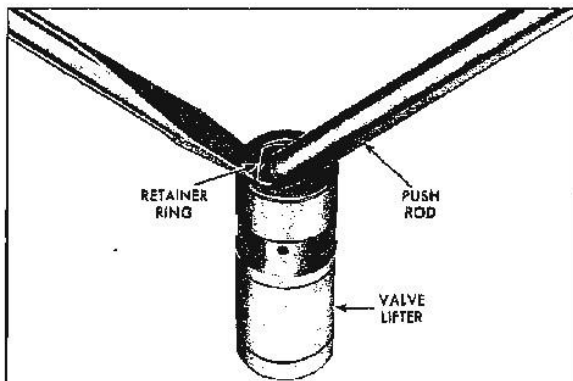

Fig. 6-17 Removing Push Rod Seat Retaining Ring
1. Remove push rod seat retainer ring by holding seat down with push rod while dislodging spring from lifter body with a pointed tool (Fig. 6-17).